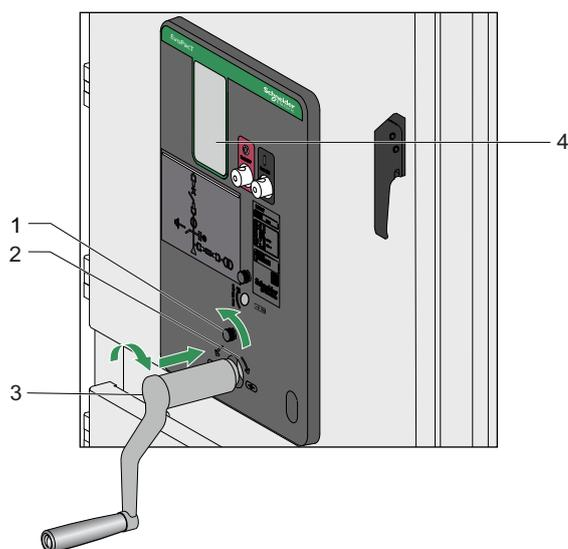

Figure 43
1. Rotate knob (1) counter-clockwise and hold it until the flap provides access to the guide. Refer to the Figure 43.
2. Insert truck handle (3) through the opening guide in the door onto the drive shaft of the VCB truck.
3. Turn the truck handle (3) clockwise until the truck is racked-in.
4. Remove the truck handle (3) and place it back into the transport trolley.
5. Check the position of the truck through the inspection glass (4).